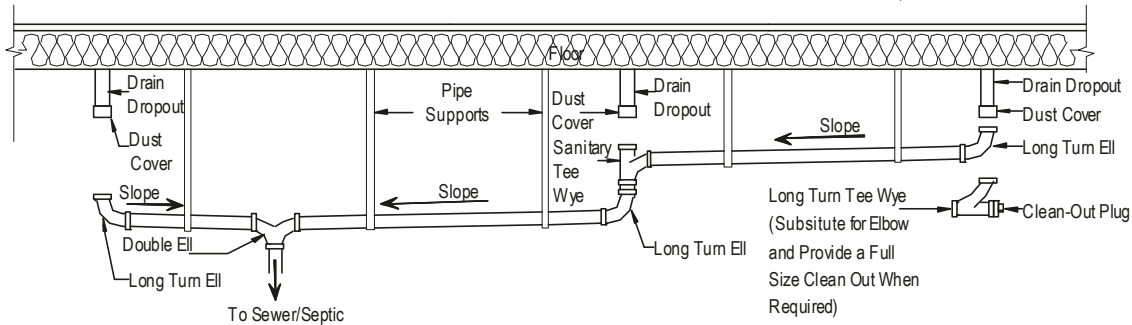
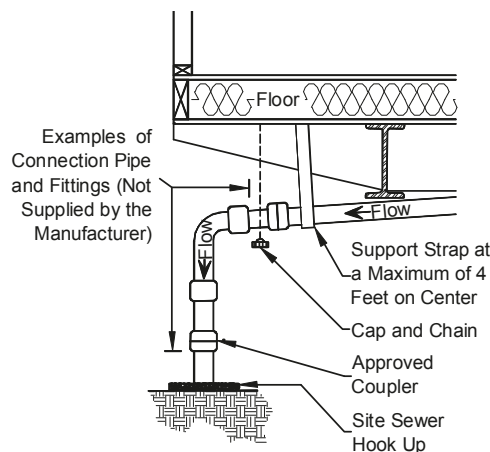
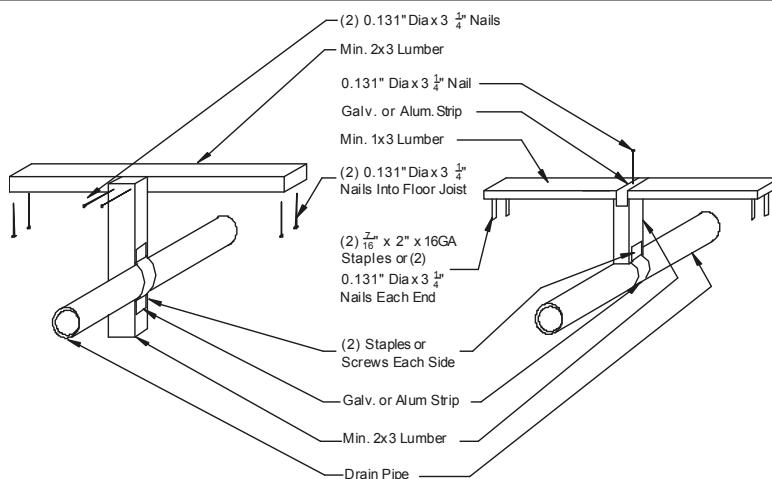

Figure 65. DWV system
Figure 66. DWV connection to sewer/septic
Figure 67. DWV pipe support options
2. **Assemble pipes.** Using the drain schematic drawing provided with the home, begin assembling the DWV system starting at the location farthest from the sewer/septic connection and working towards the outlet, fastening the pipe with cement or adjustable screw-clamp connectors, if provided (**Figure 64**). As the system is assembled, support the piping with temporary blocking. Unless otherwise noted on the schematic diagram, provide a minimum 1/4 inch per foot slope towards the sewer/septic using a plumber's level. Where a slope of 1/4 inch per foot cannot be maintained, use a minimum slope of 1/8 inch per foot and install of a full-size clean-out at the uppermost point of the run (**Figure 65**).
4. **Connect to outlet.** Connect the main drain line to the site sewer/septic hook-up, using an approved elastomer coupling (**Figure 66**).
5. **Install supports.** Install permanent drain line supports at a distance of four feet o.c. or less (see **Figure 64**, **Figure 65**, **Figure 66**, and **Figure 67**).